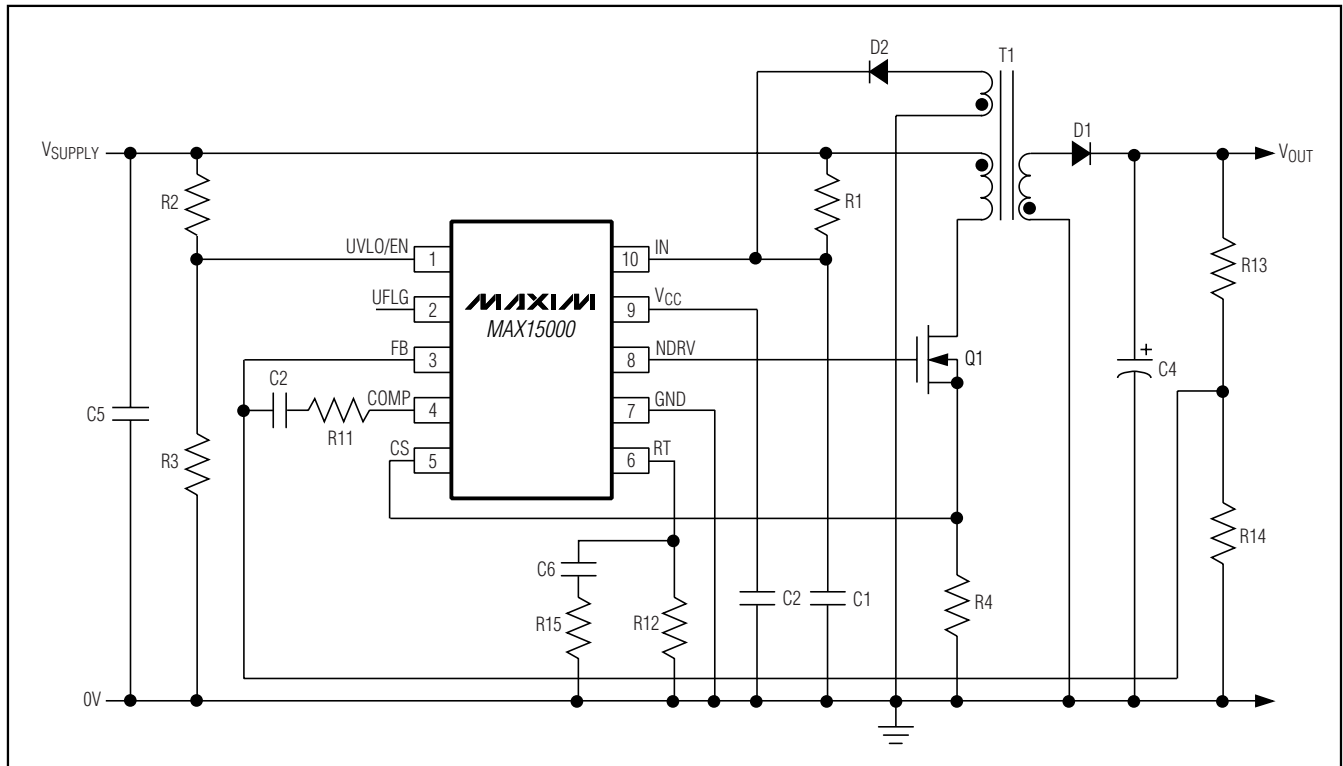
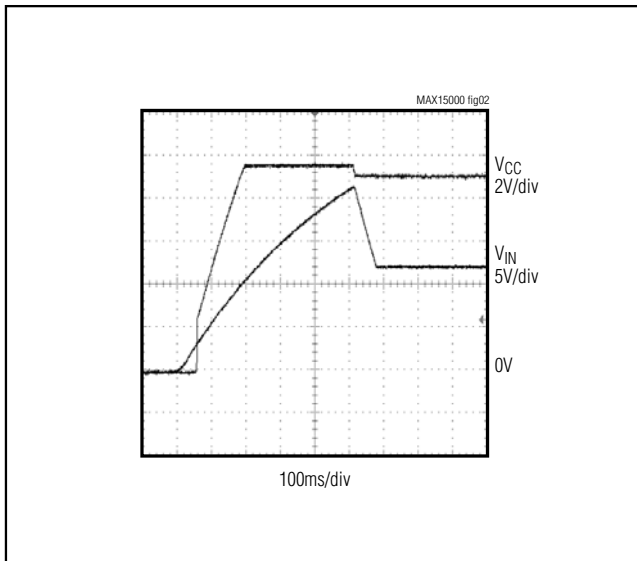

Figure 1. Nonisolated Power Supply with Programmable Input-Supply Start Voltage
Figure 2. V_{IN} and V_{CC} During Startup When Using the MAX15000 in Bootstrapped Mode (Figure 1)
- Note 2:** The MAX15000 is intended for use in universal input power supplies. The internal clamp circuit at IN is used to prevent the bootstrap capacitor (C1 in Figure 1) from charging to a voltage beyond the absolute maximum rating of the device when UVLO/EN is low (shutdown mode). Externally limit the maximum current to IN (hence to clamp) to 2mA maximum when UVLO/EN is low. Clamp currents higher than 2mA may result in a clamp voltage higher than 30V, thus exceeding the absolute maximum rating for IN. For the MAX15001, do not exceed the 24V maximum operating voltage of the device.
Characteristics table). The input is clamped when the devices are started with a bleed resistor (R1 in Figure 1) from a high input voltage and the UVLO/EN input is low. The clamp can safely sink up to 2mA current.
Power supplies designed with the MAX15000 use a high-value startup resistor R1 that charges a reservoir capacitor C1 (see Figure 1). During this initial period, while the voltage is less than the internal bootstrap UVLO threshold, the device typically consumes only 50 μ A of quiescent current. This low startup current and the large bootstrap UVLO hysteresis help to minimize the power dissipation across R1 even at the high end of the universal AC input voltage (265VAC).
Use this UVLO/EN input to program the input-supply start voltage. For example, a reasonable start voltage for a 36V to 72V telecom range is usually 34V. Calculate the resistor-divider values, R2 and R3 (see Figure 1) by using the following formulas:
For the MAX15000, the voltage at IN is normally derived from a tertiary winding of the transformer. However, at startup there is no energy being delivered through the transformer, hence, a special bootstrap sequence is required. Figure 2 shows the voltages at IN and V_{CC} during startup. Initially, both V_{IN} and V_{CC} are 0V. After the line voltage is applied, C1 charges through the startup resistor, R1, to an intermediate voltage. At this point, the internal regulator begins charging C2 (see Figure 1). Only 50 μ A of the current supplied through R1 is used by the MAX15000, the remaining input current charges C1 and C2. The charging of C2 stops when the V_{CC} voltage reaches approximately 9.5V, while the voltage across C1 continues rising until it reaches the wake-up level of 21.6V. Once V_{IN} exceeds the bootstrap UVLO threshold, NDRV begins switching the MOSFET and transfers energy to the secondary and tertiary outputs. If the voltage on the tertiary output builds to higher than 9.74V (the bootstrap UVLO lower
The MAX15000A/MAX15001A and MAX15000B/MAX15001B have programmable output switching frequencies from 25kHz to 625kHz and 12.5kHz to 625kHz, respectively. Use the following formulas to determine the appropriate value of the resistor R_{12} (see Figure 1) needed to generate the desired output switching frequency (f_{sw}) at the NDRV output:
where R_{12} is the resistor connected from R_T to GND (see Figure 1).
Connect an RC network in parallel with R_{12} as shown in Figure 1. The RC network should consist of a 100nF capacitor C_6 (for stability) in series with resistor R_{15} which serves to further minimize jitter. Use the following formula to determine the value of R_{15} :
The MAX15000/MAX15001 include an internal error amplifier to regulate the output voltage in the case of a nonisolated power supply (see Figure 1). For the circuit in Figure 1, calculate the output voltage using the following equation:
The current-sense resistor (R4 in Figure 1), connected between the source of the MOSFET and ground, sets the current limit. The current-limit comparator has a voltage trip level (V_{CS}) of 1V. Use the following equation to calculate the value of R4:
The bypass capacitor at IN, C1, supplies current immediately after the MAX15000 wakes up (see Figure 1). The size of C1 and the connection configuration of the tertiary winding determine the number of cycles available for startup. Large values of C1 increase the startup time but also supply gate charge for more cycles during initial startup. If the value of C1 is too small, V_{IN} drops below 9.74V because NDRV does not have enough time to switch and build up sufficient voltage across the tertiary output which powers the device. The device goes back into UVLO and does not start. Use a low-leakage capacitor for C1 and C2.